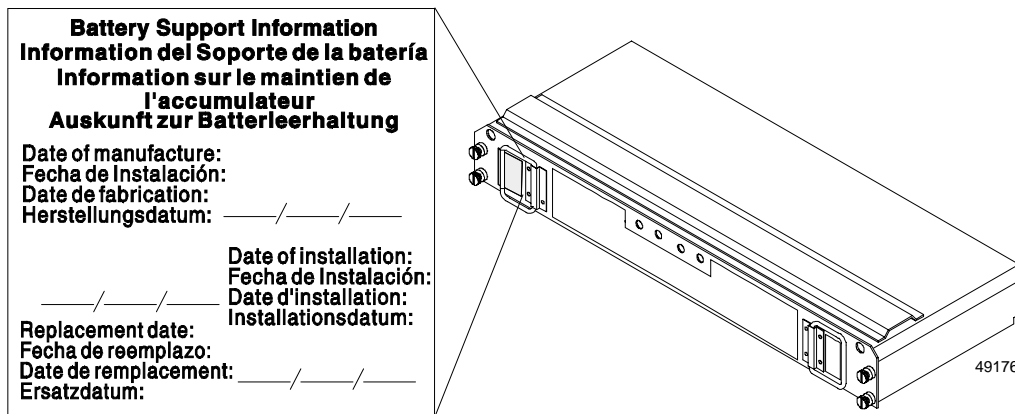

Figure 4-4 Recording the Battery Support Information
2. Unpack the battery canister. Save the packing material for shipping the used battery canister to a disposal facility. Record the following service date information on the front label of the new battery canister (see Figure 4-4):